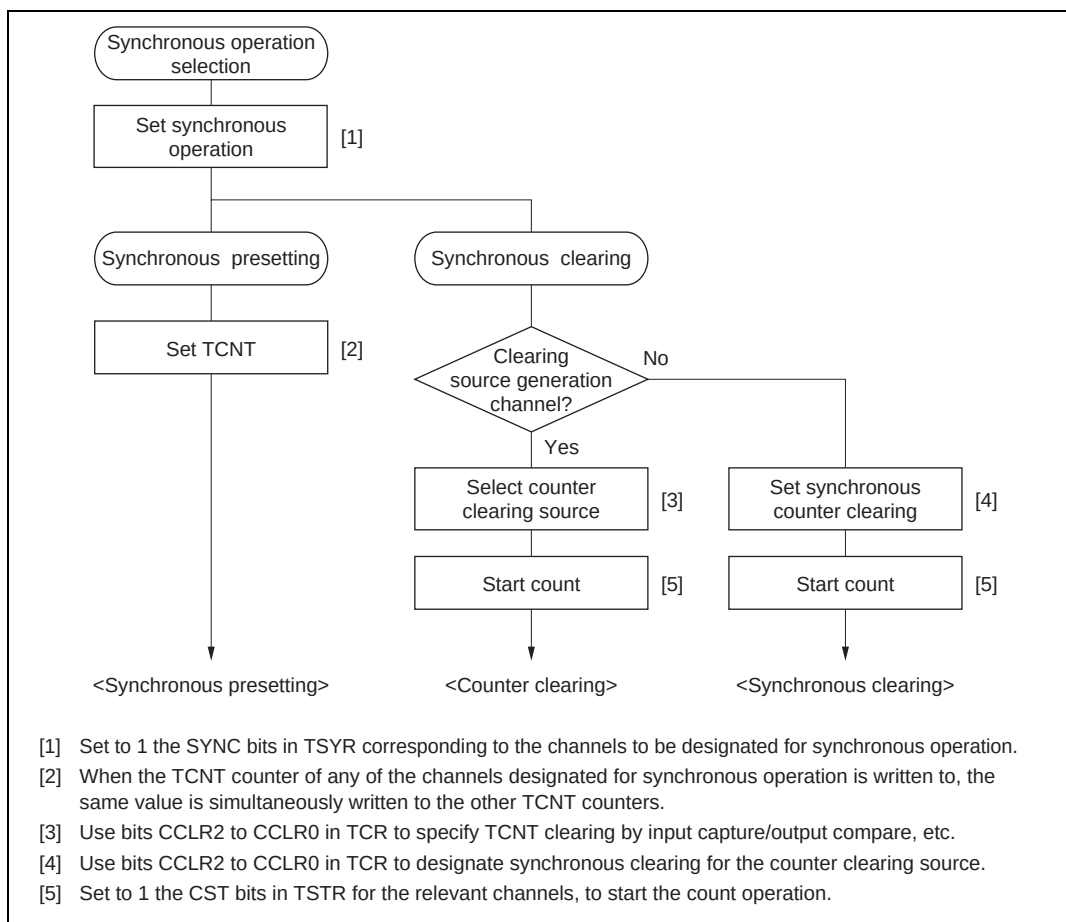

**Figure 9.14 Example of Synchronous Operation Setting Procedure**
**Example of Synchronous Operation Setting Procedure:** Figure 9.14 shows an example of the synchronous operation setting procedure.